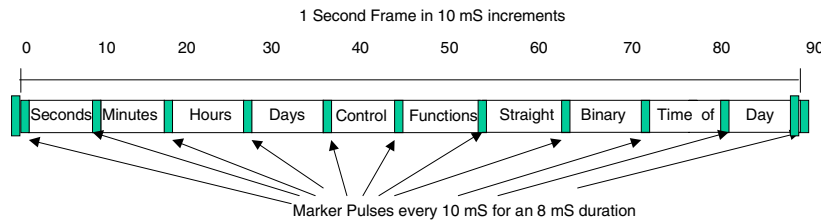

Figure 2. IRIG B Frame Construction
has internal time markers, which insure time-stamping accuracy to the millisecond. An eight-millisecond frame reference marker appears during the first ten milliseconds of each frame. Another eight-millisecond position identifier appears during the ninetieth millisecond of each one-hundred millisecond period mark. The 30 bit Binary Coded Decimal time data occurs in the first one hundred millisecond of each 1-second frame. Optional control functions are sometimes encoded in the data stream. These functions control deletion commands and allow different data groupings within the synchronization strings. Decoding an IRIG B pulse is quite a complex undertaking. A typical 1-second time frame is illustrated in Figure 2. It is interesting to note that the year is not included within the IRIG B frame. If the Control Function frame (CF) or Straight Binary Time of Day frame (SBT) is not used, the bits defined within those fields are to be set as a string of zeroes and sent to the IED IRIG B receiver.